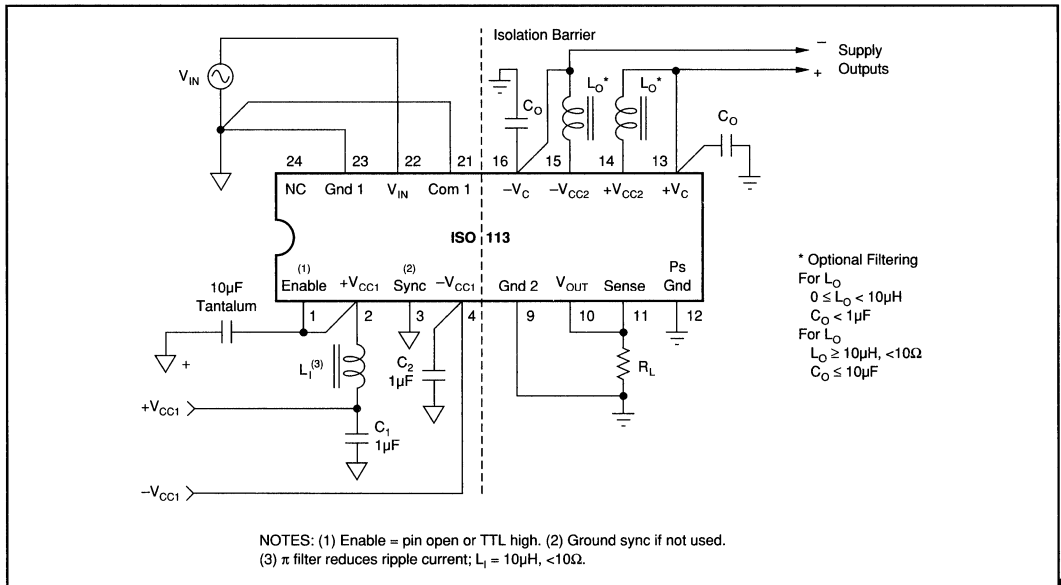

FIGURE 1. Signal and Power Connections.
Figure 1 shows the proper power supply and signal connections. All power supply pins should be bypassed as shown with the π filter for $+V_{CC1}$, an option recommended if more than $\pm 15\text{mA}$ are drawn from the isolated supply. Separate rectifier output pins ($\pm V_{CC2}$) and amplifier supply input pins ($\pm V_C$) allow additional ripple filtering and/or regulation. The separate input common pin and output sense are low current inputs tied to the signal source ground, and output load, respectively, to minimize errors due to IR drop in long conductors. Otherwise, connect Com 1 to Gnd 1, and Sense to V_{OUT} at the ISO113 socket. The enable pin may be left open if the ISO113 is continuously operated. If not, a TTL low level will disable the internal DC/DC converter. The Sync input must be grounded for unsynchronized operation while a 1.2MHz to 2MHz TTL clock signal provides synchronization of multiple units.
NOTES: (1) PWS750-1 can sync > 20 ISO113s. (2) Bypass supplies as shown in Figure 1.